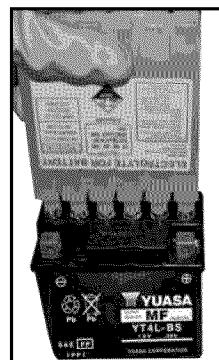

Figure 21
- Place electrolyte container upside down with the sealed silver mouths of the electrolyte bottles in line with the six filler holes of the battery. (see figure 21)